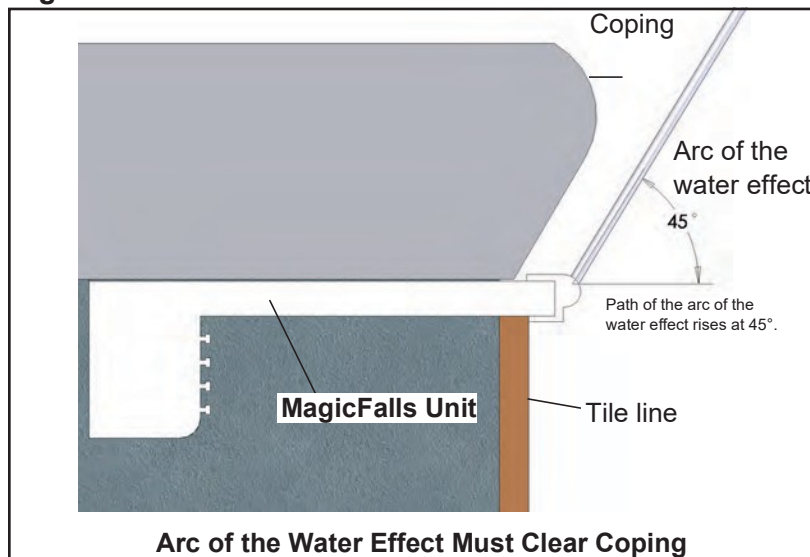

Figure 3
3. When installing an arc effect, like rain or sheet, be sure the water effect clears the overhanging coping (Figure 3). The arc of the water effect rises out of the waterfall at  $45^\circ$ .